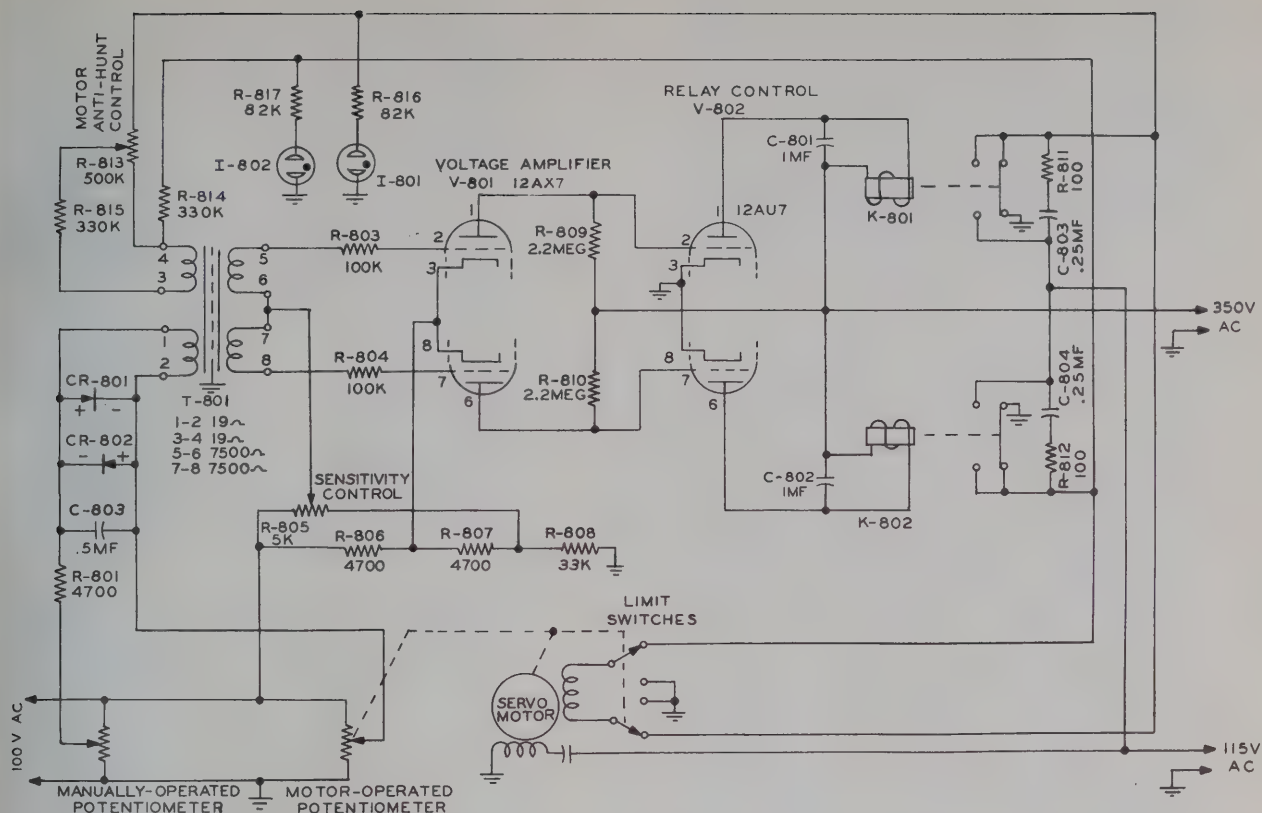

Figure 117. Servo Control System Simplified Schematic Diagram.
- (b) Figure 117 will be used in the discussion of the servo tuning system. In this diagram, for purposes of simplicity only one servo amplifier, one servo control potentiometer, and one servo drive unit are shown.